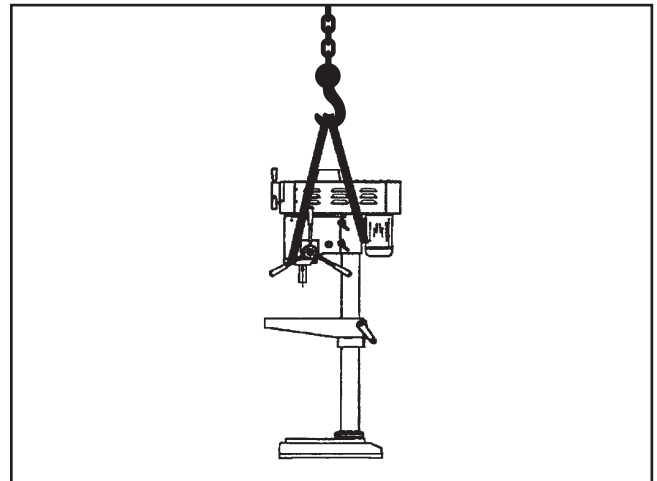

Figure 6. Location of lifting straps.
3. Position the lifting straps under the headstock as shown in **Figure 6**. Make sure the straps are not in contact with any controls, wires, or handles.